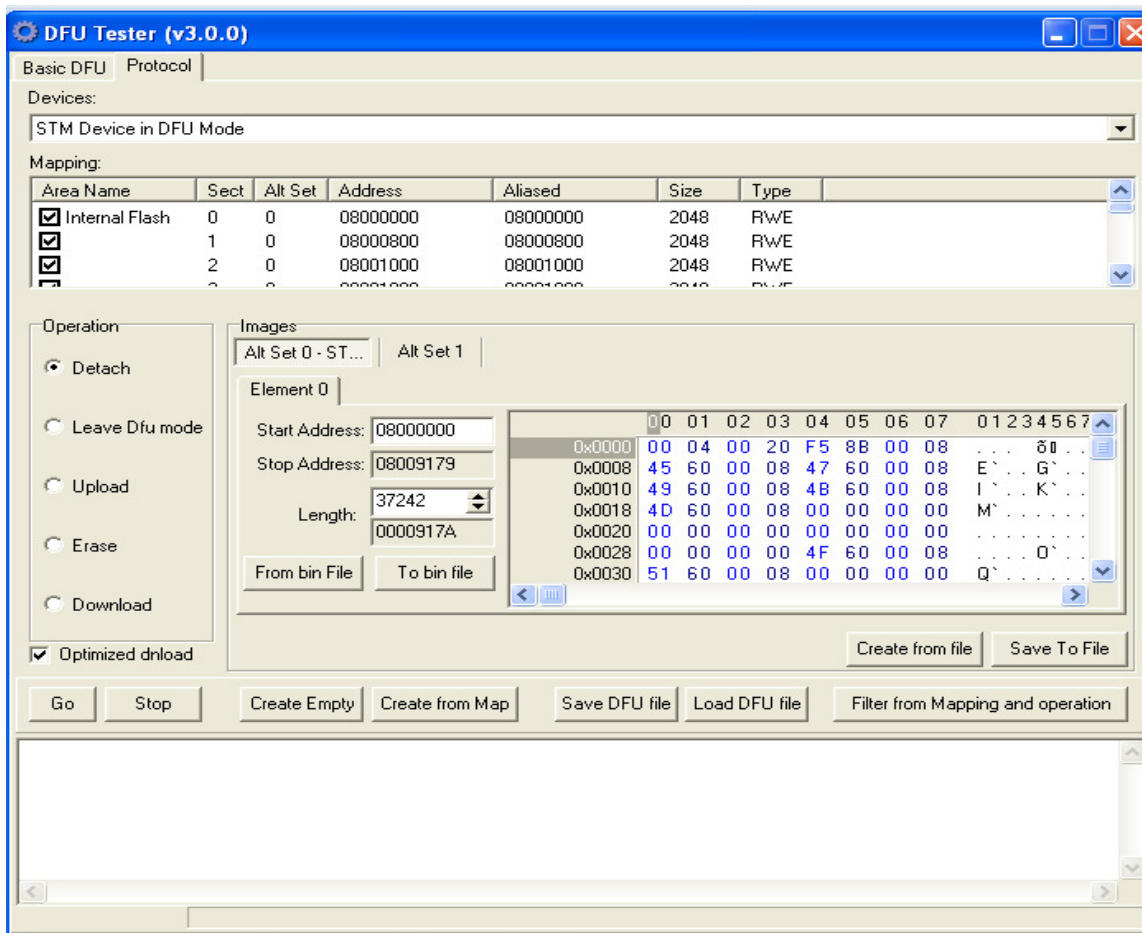

Figure 3 Копия экрана программы DFU Test
10.2.2. Please pay attention on information in the list box “Devices” (upper part of application window). If all sequence described above was done right there will be listed found devices list like on Figure 3 (STM Device in DFU Mode). If “STM Device in DFU Mode” is shown in list box, it tell that AFEDRI SDR is successfully run in “boot” mode and ready to firmware update